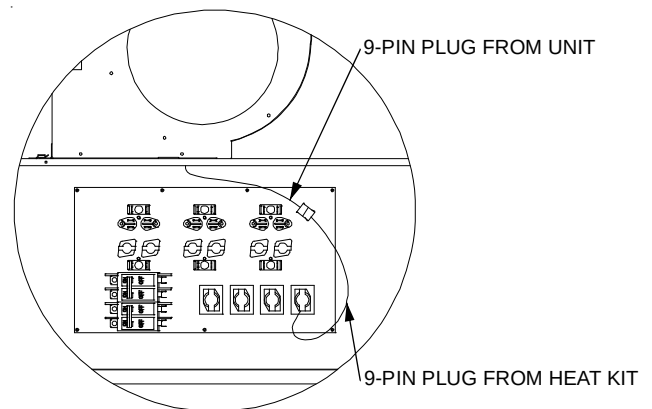

Figure 11
10. Connect the plug to the mating 9-pin plug attached to heater kit.. See Figure 11.